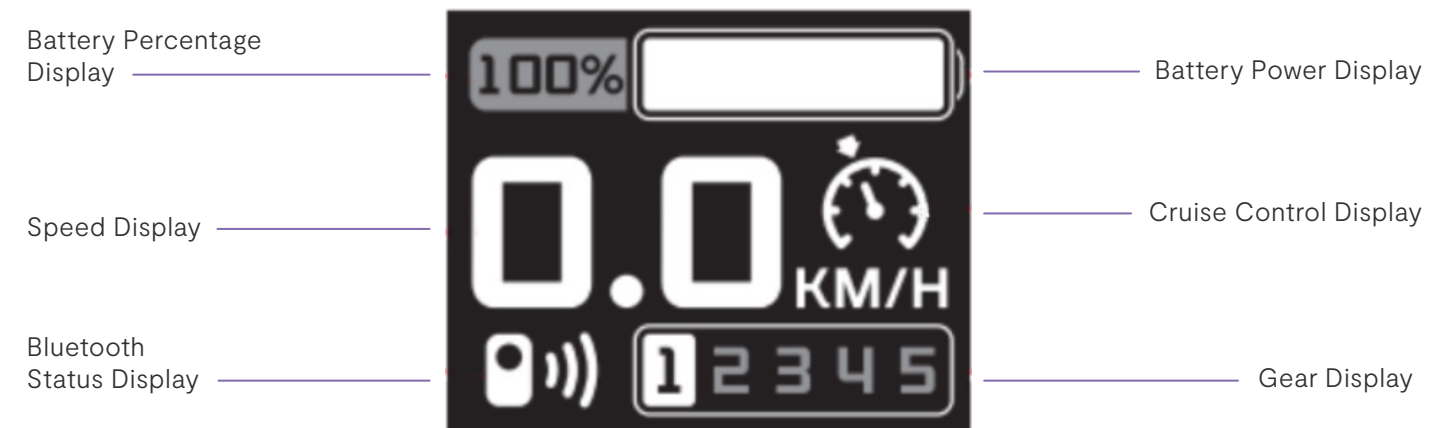

Figure 4.3.3.1
- The top of the display screen shows the remaining battery level as a percentage (%). (See Figure 4.3.3.1)
- Speed accuracy is within $\pm 5\%$. (See Figure 4.3.3.1)
- When Bluetooth is connected, the Bluetooth icon will be displayed. (See Figure 4.3.3.1)
- The screen continuously displays the real-time power status of the Powerchair. (See Figure 4.3.3.1)